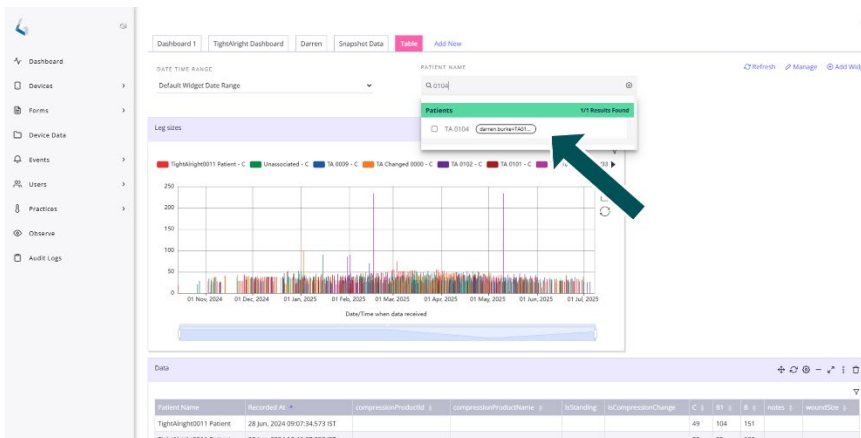

Figure 34. Display specific patient data by typing the relevant Transmitter Device UIC in "Patient Name".
- To view a specific device (i.e. patient) dataset, type a device number (i.e. the unique identification code (UIC) for the specific Transmitter Device, see Figure 27) into **Patient Name** (e.g. 0104) and click on the displayed device option (Figure 34).